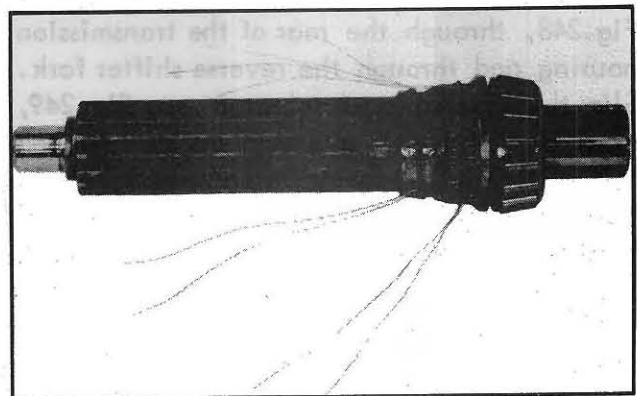

Fig. 246
a. Coat the first gear bearing surface of the shaft with heavy vaseline or grease and place the two rows of needle bearings (52 per row) with the spacer, TO-7063, between the two rows. Hold the bearings in position with the two elastic bands with wires attached, see Fig. 246